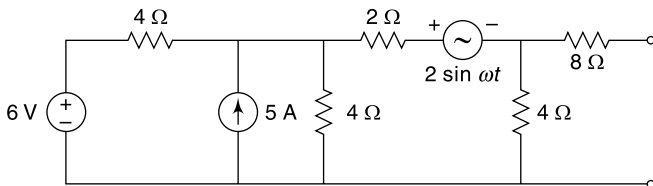

Fig. 6.8 Circuit of Ex. 6.8
6.8 Find the Thevenin's equivalent circuit of the network shown in Fig. 6.8.